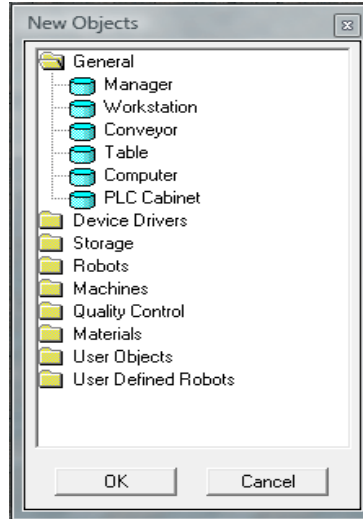

Figure 108: New Objects Dialog Box
1. Select Edit | New Object. The **New Objects** dialog box is displayed as shown Figure 108: New Objects Dialog Box.
1. Select **Edit | New Object**. The New Objects dialog box is displayed as shown in Figure 108: New Objects Dialog Box.
1. Select **Edit | New Object**. The New Objects dialog box is displayed, as shown in Figure 108: New Objects Dialog Box.